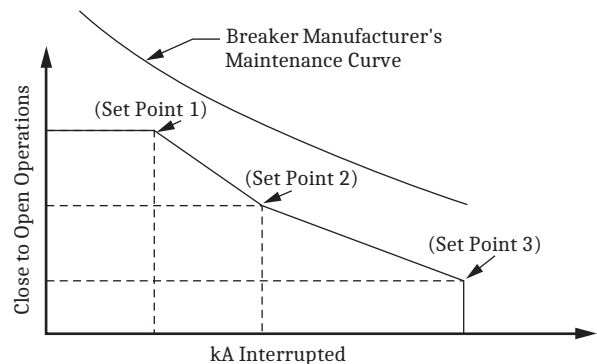

Figure 24 Breaker Contact Wear Curve and Settings
- Every time the breaker trips, the relay integrates interrupted current. When the result of this integration exceeds the threshold set by the breaker wear curve (Figure 24), the relay can alarm via an output contact or the optional front-panel display. With this information, you can schedule breaker maintenance in a timely, economical fashion.